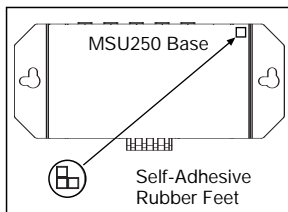

Figure 2: Table-top placement
- 1) Table-top (on the floor or shelf behind the equipment) (Figure 2).